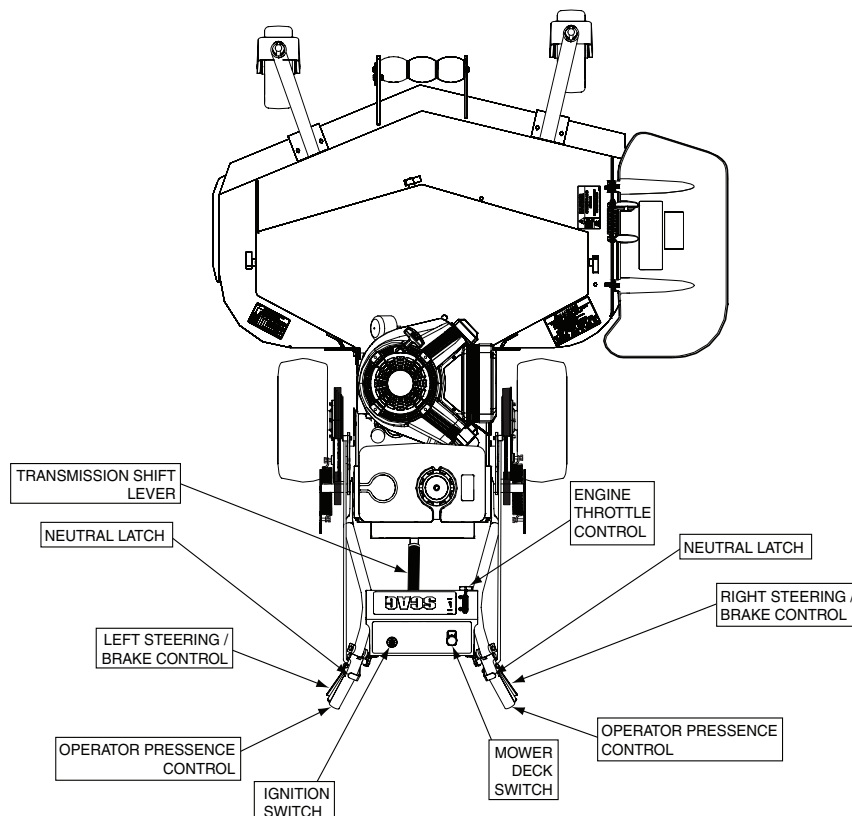

Figure 4-1. Controls and Instruments
1. Ignition Switch (Figure 4-1). The ignition switch is used to start the engine. Turn the key to the on position before pulling the recoil starter.
- 2. Mower Deck Switch (Figure 4-1).** Used to engage and disengage the mower drive system. Pulling up on the switch will engage the deck drive. Pushing down on the switch will disengage the deck drive.
- 3. Engine Choke Control (Figure 4-1).** Used to start a cold engine.
- 4. Engine Throttle Control (Figure 4-1).** Used to control the engine speed. Pushing the lever forward increases engine speed. Pulling the lever back decreases engine speed. Full back position is the IDLE position. Full forward is the cutting position.
- 5. Left Steering / Brake Control (Figure 4-1).** Used to control the mower's left wheel when traveling forward or reverse. Pull upward to apply brake.
- 6. Right Steering / Brake Control (Figure 4-1).** Used to control the mower's right wheel when traveling forward or reverse. Pull upward to apply brake.
7. **Transmission Shift Lever (Figure 4-1).** Used to select the forward speed or selecting reverse. The machine must be at a complete stop before shifting between gears or shifting between forward and reverse.
8. **Neutral Latch (Figure 4-1).** Used to secure the belt drive system in neutral. Apply neutral latches when parking the machine.
9. **Operator Presence Control (Figure 4-1)**